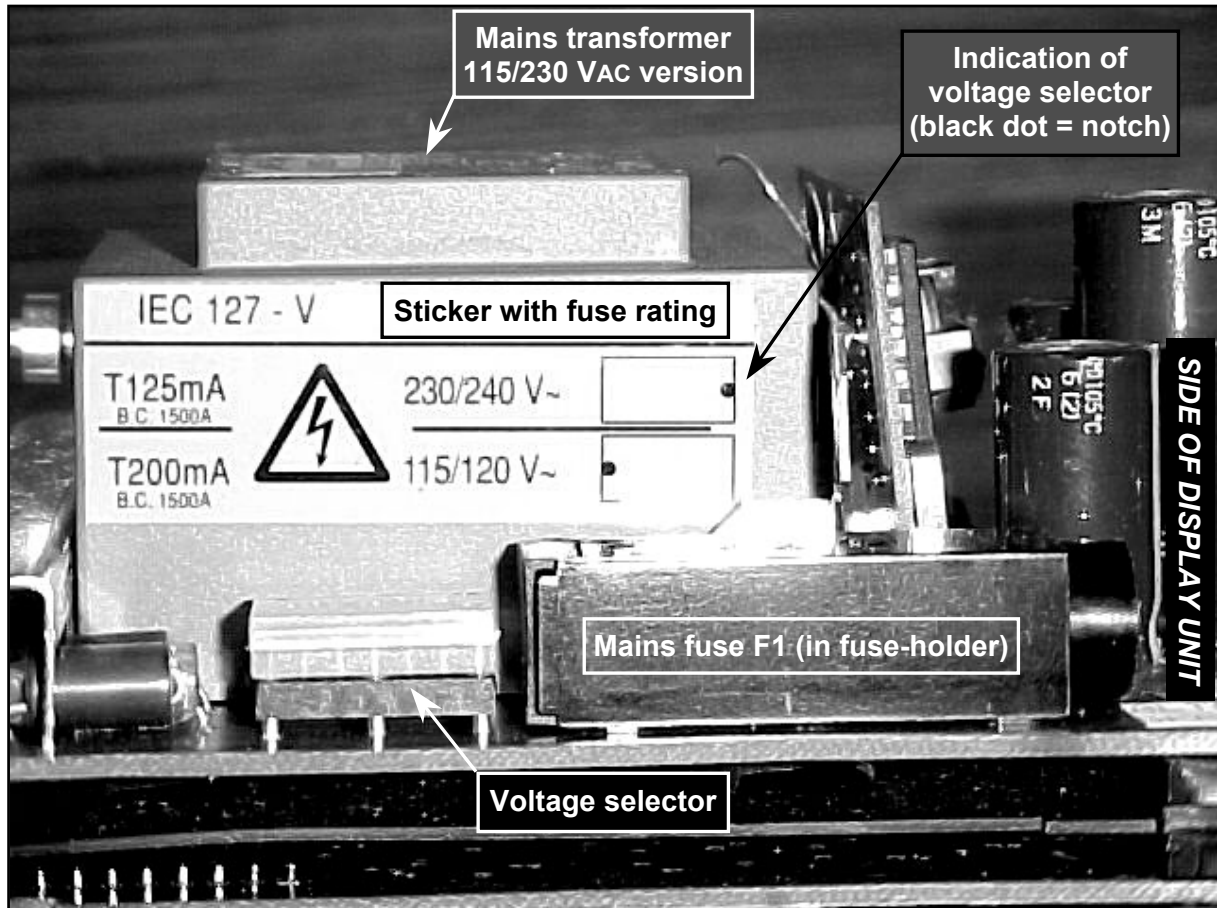

Figure 6: Power supply 115/230 VAC.
3. The fuse-holder in which the power fuse is mounted is accessible now to exchange the defect power fuse **F1** for one with the same rating. The rating depends on the voltage of the mains (**T200mA** for 100/115VAC and **T125mA** for 200/230 VAC setting). See also the yellow sticker on the mains transformer as shown in Figure 6 below.
5. The voltage setting of the power supply can be changed by turning the dummy dual-in-line block (i.e. **voltage selector**, see Figure 6 on page 6) over 180° in its socket. The position of the notch on the dummy dual-in-line block indicates the voltage setting. Also see the sticker that is mounted on the mains transformer (see Figure 6).